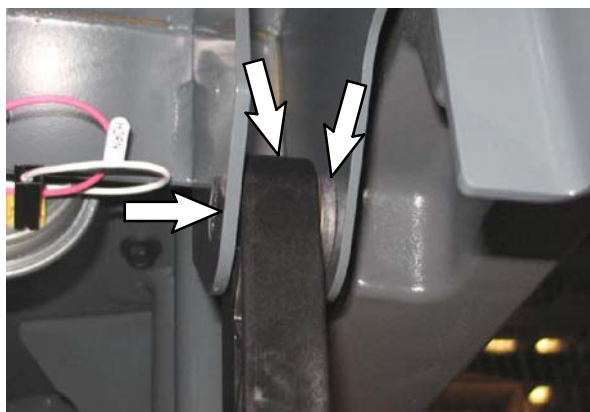
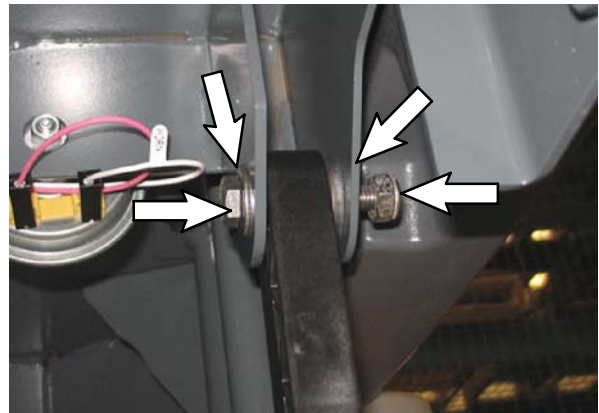

FIG. 9
FIG. 10
9. Insert the sleeve (2) into the lift arm bracket on the frame of the machine, through the scrub head lift arm, through the spacer (1), and through the other side of the lift arm bracket. Refer to Fig. 9.
10. Use an M10 hex screw (3), two flat washers (4), and an M10 hex nut (5) to secure the sleeve (2), the scrub head lift arm, and spacer (1) into the lift arm bracket on the frame of the machine. Refer to Fig. 10.
11. Repeat the last several steps to reinstall the other scrub head lift arm onto the other side of the machine. Refer to Fig. 9 and Fig. 10.